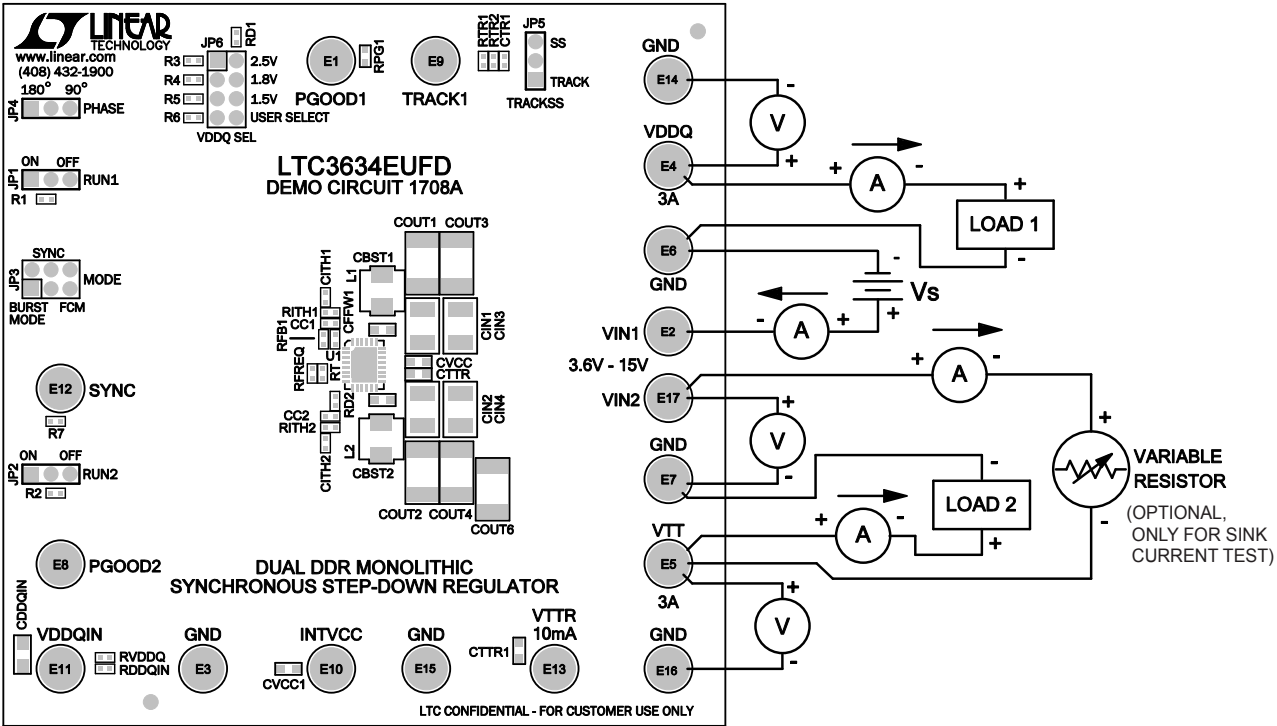

Figure 1. Proper Measurement Equipment Setup
The DC1708A is easy to set up to evaluate the performance of the LTC3634. For a proper measurement equipment configuration, set up the circuit according to the diagram in Figure 1.
1. Connect the input power supply to the V_{IN} and GND terminals. Connect the loads between the V_{OUT} and GND terminals. Refer to Figure 1 for the proper measurement equipment setup.